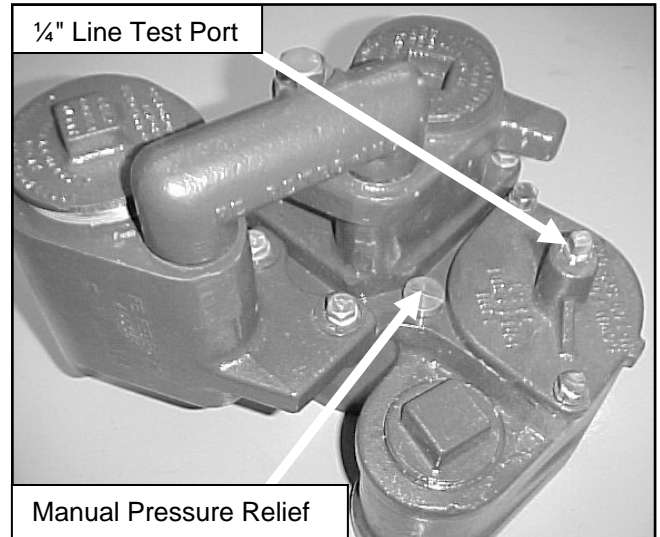

Figure 1
4. Remove the 1/4" pipe plug at the Line Test Port (see Figure 1) using a 3/8" eight point socket wrench to remove the 1/4" pipe plug, if one is available.